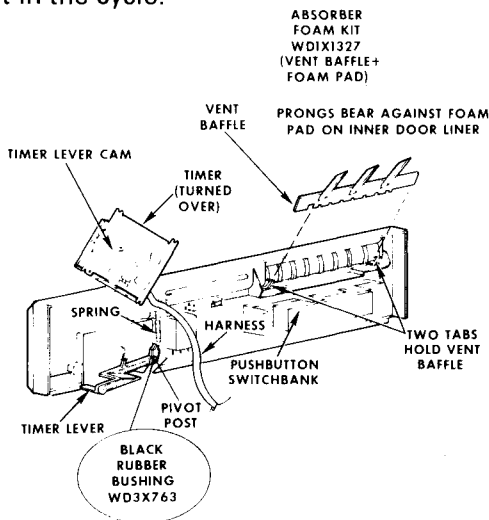
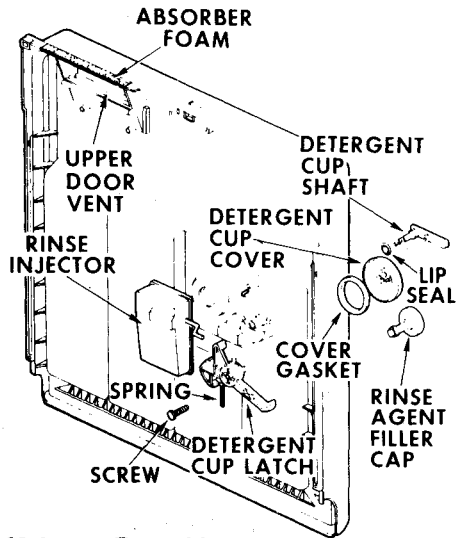

Figure 4 - Rear of GE PermaTuf Control Panel
Figure 5 - GE PermaTuf® Inner Door Liner
Figure 4 shows the back of the control panel, which is visible when the inner door panel is separated from the outer door panel, and the brown plastic housing over the timer and pushbutton switchbank is removed.
The Black Rubber Bushing, WD3X763, **MUST BE IN PLACE** as shown. If it is not, the pivot point of the Timer Lever is affected, which can cause it to bind against the Detergent Cup Latch (see Figure 5). Any binding will occur after the detergent cup trip point in the cycle.
Figure 4 shows the brown plastic "Vent Baffle" used in production on all "S" and "X" models and the SD2500. This part has three (3) prongs that bear against the absorber foam pad located on the inner door flange above the upper door vent openings (see Figure 5).